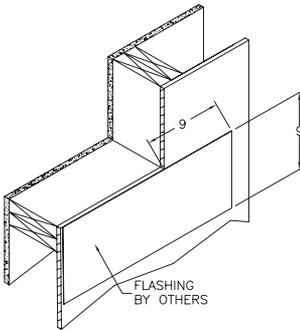
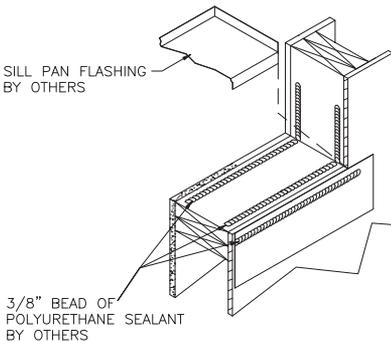
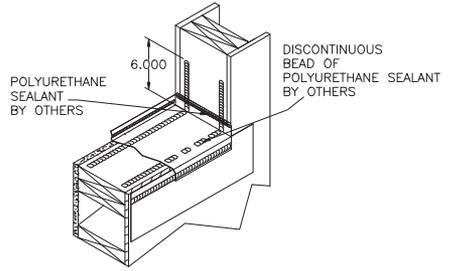

Figure 2
Figure 3
Figure 4
2. Sill Pan. Sierra Pacific strongly recommends the use of a sill pan. A rigid or flexible membrane pan may be used depending upon project specifications and installation conditions. Installation should be compliant with ASTM E 2112 "*Standard Practice for Installation of Exterior Windows, Doors and Skylights.*" Figures 3, 4 and 5 illustrate installation using a rigid sill pan..
4. Begin flashing of the rough opening (RO) by applying flashing material along the exterior edge of the sill plate (see figure 2). Make sure that the flashing extends 8 1/2" beyond both sides of the RO. Next, apply two continuous beads of polyurethane sealant across the width of the sill, approximately 1/2" - 1" in from the interior and exterior edges of the RO (see figure 3). The sealant should extend 6" up each side of frame members. One additional bead should be applied along the exterior vertical edge of the sill plate as shown. This will create a seal between the sill pan and the sill. Set the sill pan in place (see figure 4) and make sure that it is fully seated in the sealant, especially the front lip.